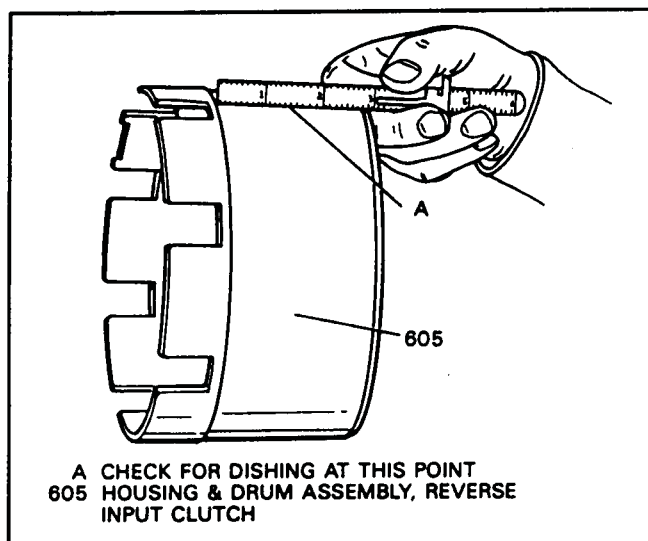

Figure 150
3. Check the reverse input housing using a straight edge, as shown in Figure 150, to ensure that you have a flat band surface.
2. Inspect the reverse input clutch housing with a straight edge, as shown in Figure 150, for flatness.